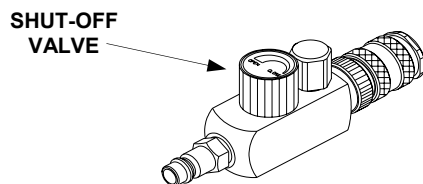

Figure 2-9. In-Line Relief Valve Controls
- g. **In-Line Relief Valve.** The only control on an in-line relief valve (figure 2-9) is the shut-off valve that maintains pressure to the lift bag(s) when the dual safety relief or dual “deadman” safety relief and control valve must be disconnected during an operation requiring the use of multiple lift bags.